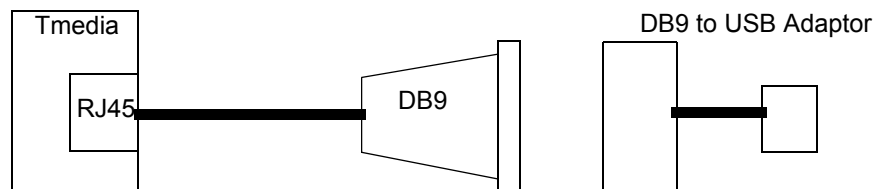

Figure 3.2 Conceptual View of a Serial Connection from the Tmedia VoIP Gateway to a Computer
2. If your computer’s serial port features a DB9 connector, use the DB9 to RJ-45 adapter supplied with your Tmedia VoIP Gateway. If your computer’s serial port features a USB connector, you will need to provide a USB to DB9 adaptor. Refer to figure 3.2 on page 42.